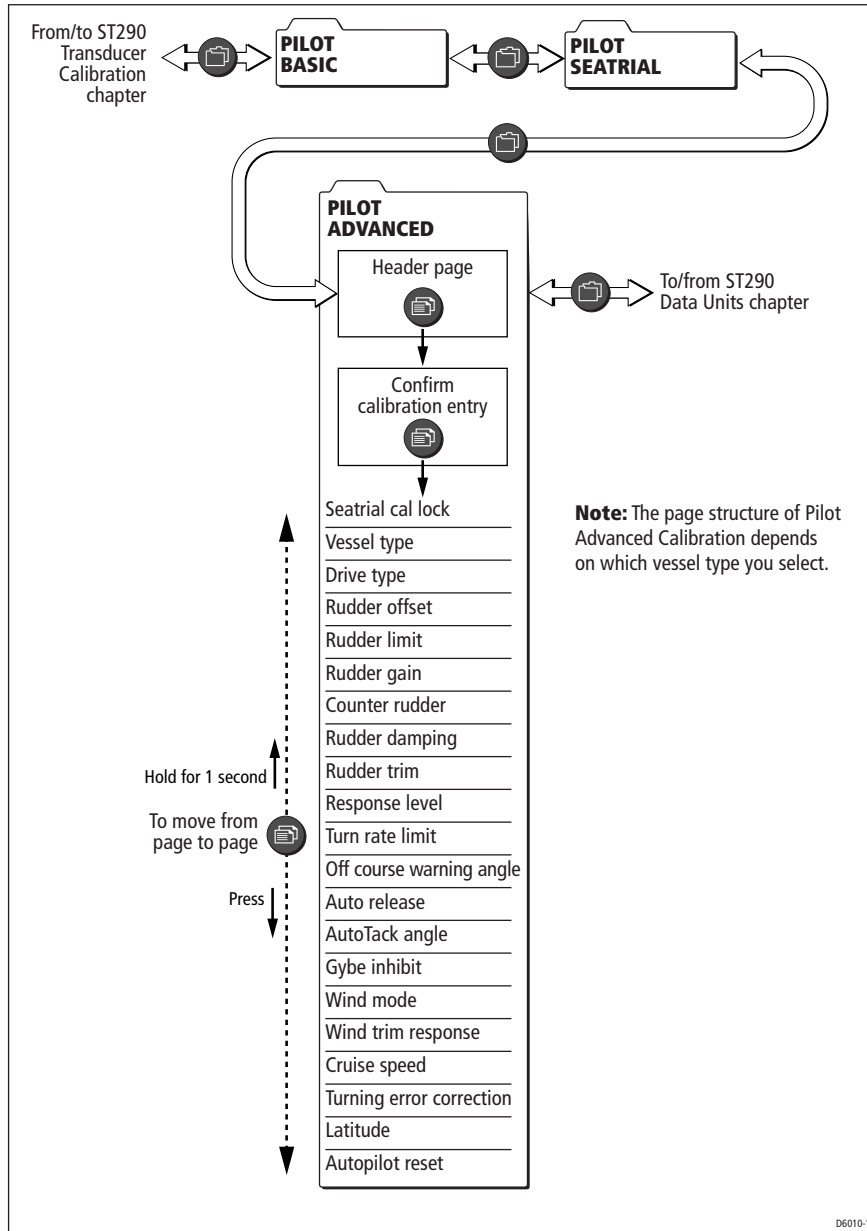

Figure 4-5: Pilot Advanced Calibration mode
2. Using an ST290 Graphic Display (*Figure 4-4*), enter User Setup, as described in *Section 7* of this handbook. Then press the  button to scroll to the PILOT ADVANCED CAL setup chapter (see *Figure 4-5*)